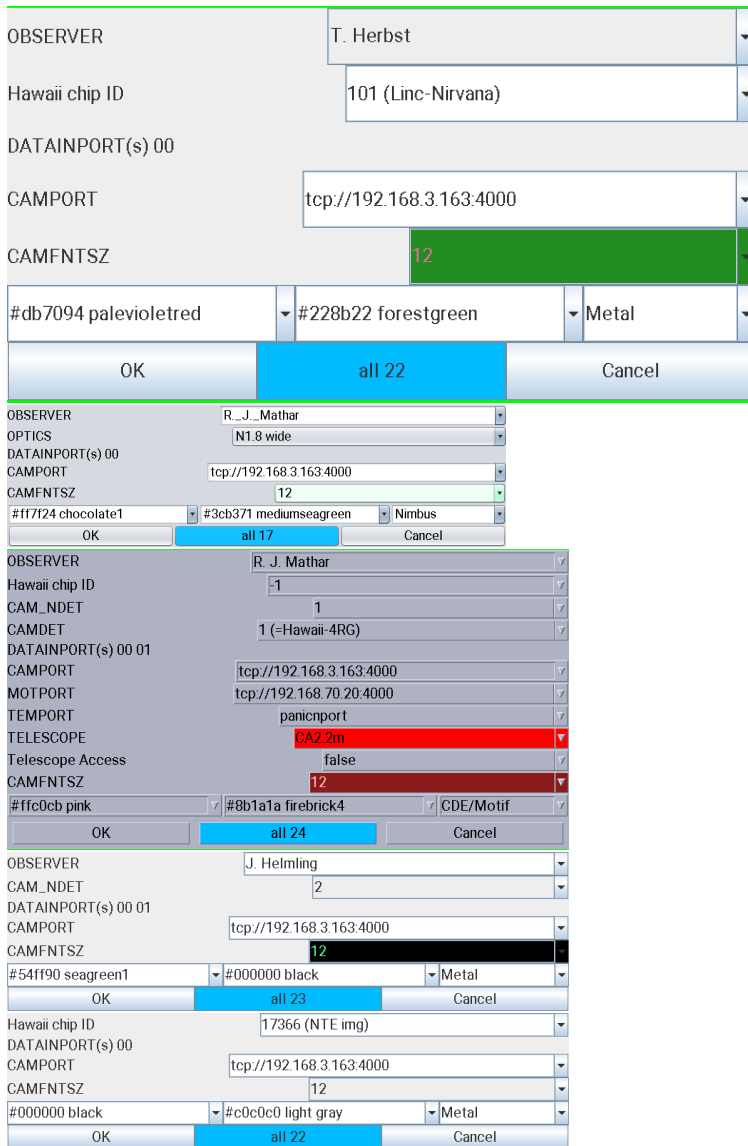
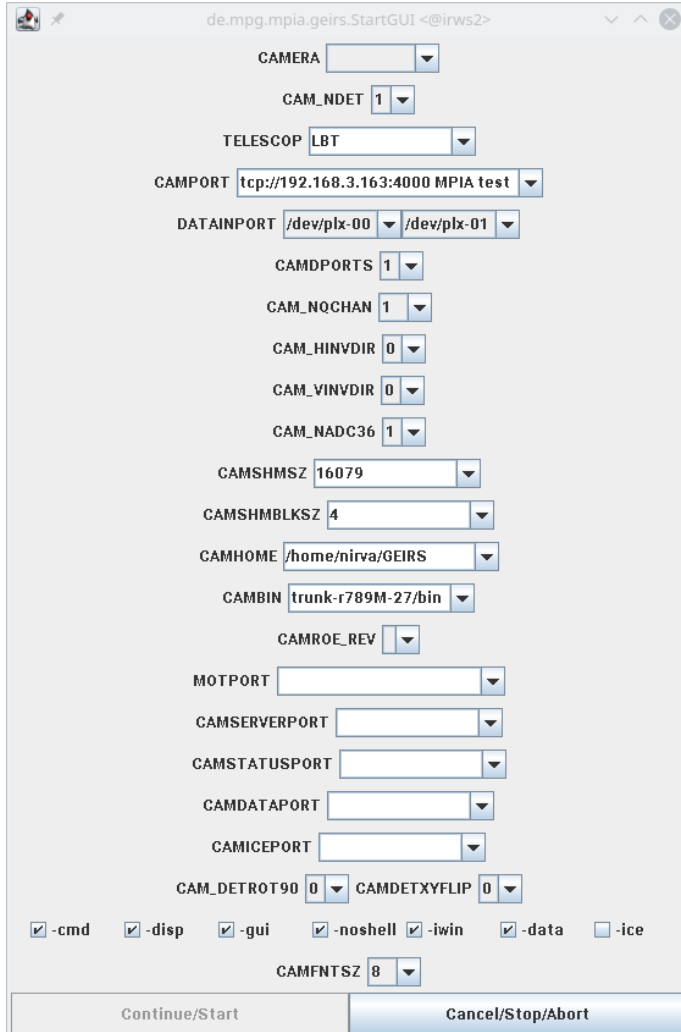

Figure 7: Startup screen to start GEIRS. Which of these layouts appears depends on the instrument.
Figure 8: Engineering startup with `geirs_start`.
2. modifications of the environment variables by the engineering GUI in Figure 8;
4. modifications of the availability of subsystems (simulation) defined in the GUI in Figure 7;
If no command line option is used, four of them are implicitly activated. If the *-iwin* option was present (explicitly or implicitly), it commences with the start-up screen of Figure 7. The controls and/or the image GUI will be opened depending on the presence of the options *-gui* and/or *-disp*. The command server is started depending on the presence of the option *-cmd*. The *-gui* option works only if the command server is either started here or already running. The data server is started depending on the presence of the option *-data*. The real-time display requires that the data server is run.
Some parameters may be edited in Figure 7 at this time:
The GUI in Figure 7 allows essentially to move subsystems into simulation mode. If you are not satisfied with some of the selectable parameters, you need to start from scratch, either with Figure 8 or by explicitly setting the shell variables before using the start-commands of Section 4.1.
The GUI in Figure 7 uses a countdown of 20 seconds, where the remaining time is indicated in the label of the `all` button. If no button is pressed to change the configuration within that time interval, it will continue to start (or fail to start) GEIRS with the currently selected set of parameters.30
After you press **all** in Figure 7, the subsystems (most noticeably the ROE) are initialized and the GEIRS window of Figure 9 will appear. At that time all (recent) instrument patterns send commands to the ROE which switch most of the ROE’s LED’s off. The LED’s of the network card of the ROE cannot be manipulated by these software means (and must be taped to shield their light).
If some subsystems of GEIRS, like the ROE, the Motors or the Telescope are set to the simulation state in Figure 7, some parts of the GUIs described in this manual display yellow backgrounds in menus to provide a visual warning that the corresponding section of the action or information is in some state of software emulation/simulation.
which pops up similar to Figure 8. This allows *experienced* users to edit many parameters on a finer level without editing the `geirs_start_gen` script, but at a higher risk of starting GEIRS with modes that are not supported.
The program scans (pings) a list of fixed ROE IP addresses and puts those that seem to be online into the selector for the `CAMPORT`. It puts subdirectories of `CAMHOME` that look like compiled GEIRS versions into the `CAMBIN` selector. If the `Continue/Start` button is pressed, the program sets some of the environment variables mentioned in Section 3; labels in the GUI and environment variables correspond to each other. Then it calls the shell script `scripts/geirs_start_gen` with the options set in the third but last line of Figure 8. See Section 5.5 for the meaning of the `geirs_start_gen` options. The principal rationale for having this GUI is that one can